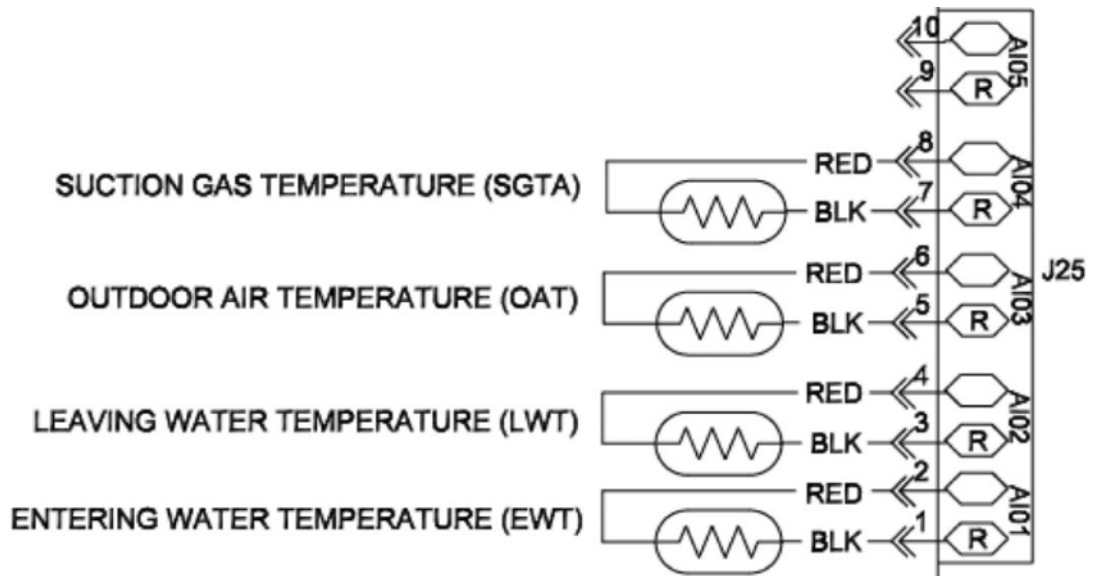

Fig. 8 – SIOB-A-J25 Connector
24. Label and cut EWT (entering water temperature) and LWT (leaving water temperature) thermistors approximately 1 ft from the SIOB-A-J25 connector. See Fig. 8.